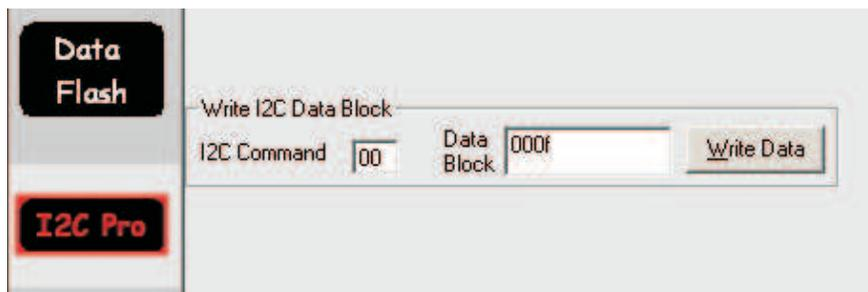

Figure 6. Command to Set the Device in ROM Mode for Firmware Programming
5. Put the device into ROM mode by setting the **Write I2C Data Block** section as: *I2C Command: 00 Data Block (hex): 000f*, and click the **Write Data** button (see Figure 6).